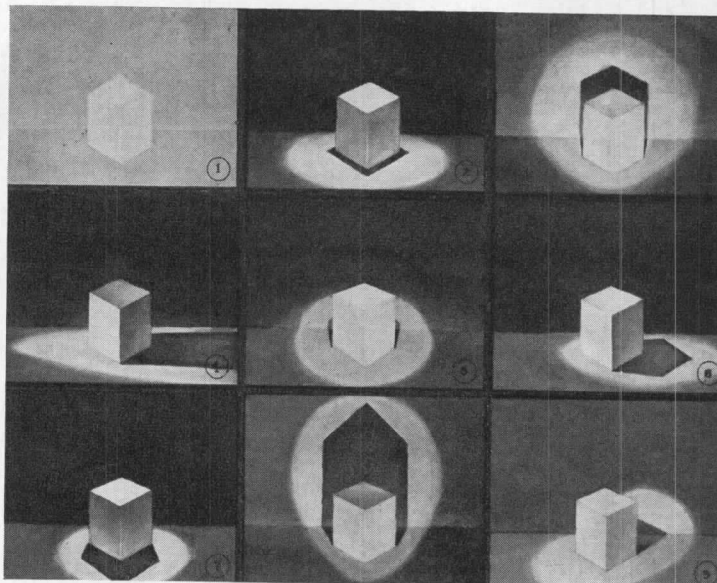

Fig. 2
Fig. 2: effect of different directions and distributions of light. (1) general distribution from all directions practically eliminates form; (2) downlight directly above gives little illumination on vertical faces; (3) center-front light as from balcony; (4) light as from side of stage — sharp contrast between vertical faces; (5) center-front at 45 deg, less shadow than (3) gives; (6) side lighting at 45 deg, good on top and one vertical face;
(7) back lighting, good light on top and separation from background; (8) front lighting as from below, exaggerated shadow; (9) diagonal lighting, desirable balance of highlight and shadow.